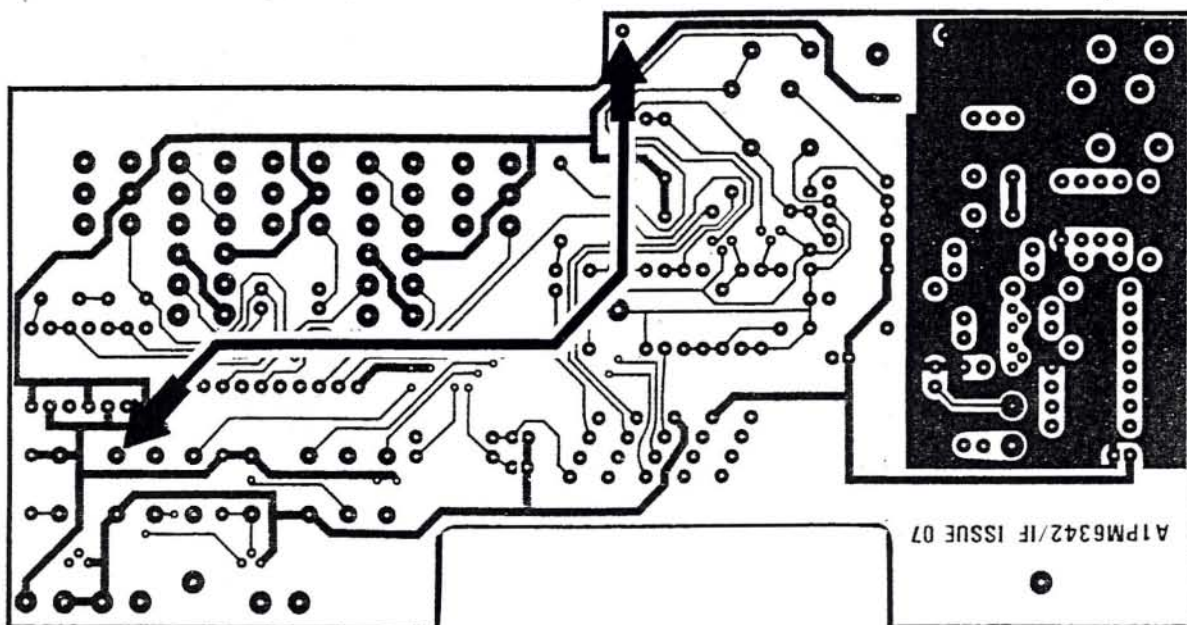

Fig. 2 Solder side - add jumperwire
- 8) Solder an insulated wire jumper to the underside (solder side) of the board between the relay pin and the ground plane, as shown in fig. 2.